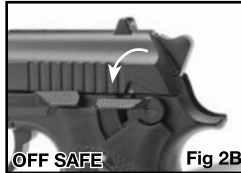

Fig 2A
- Push the safety all the way up covering the red dot for "ON SAFE" (Fig. 2A). The safety is not "ON SAFE" unless it is pushed all the way up and the red dot is NOT showing.